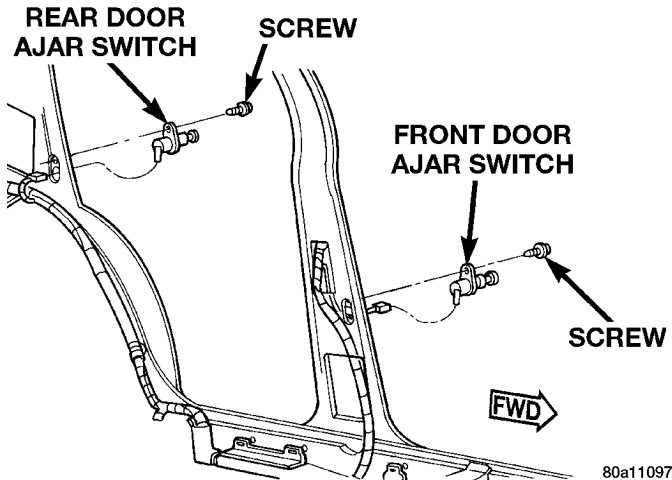

Fig. 2 Door Ajar Switch Remove/Install
(1) Disconnect and isolate the battery negative cable.
(2) Remove the screw that secures the door ajar switch to the pillar at the rear of the door opening (Fig. 2).